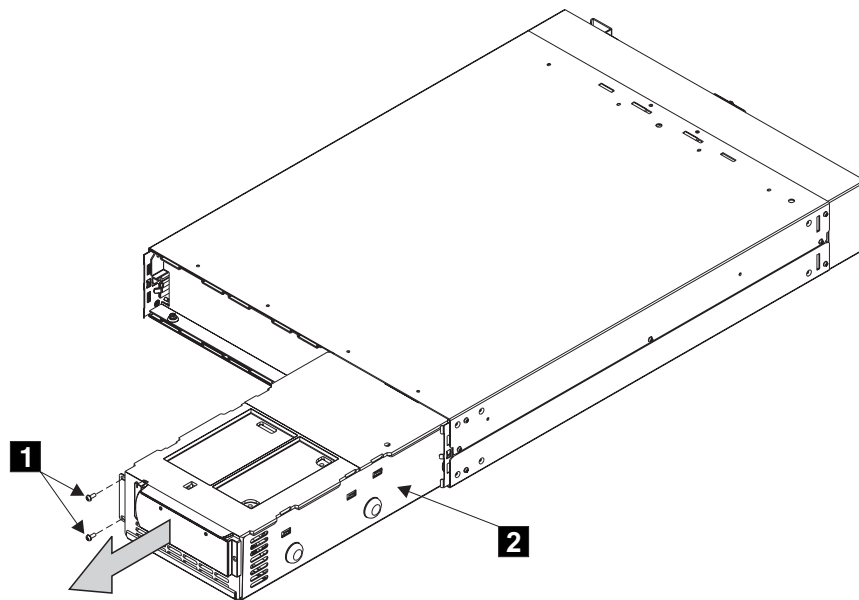

Figure 19. Removing the uninterruptible power supply electronics assembly
3. Remove the two screws **1** , (see Figure 19).